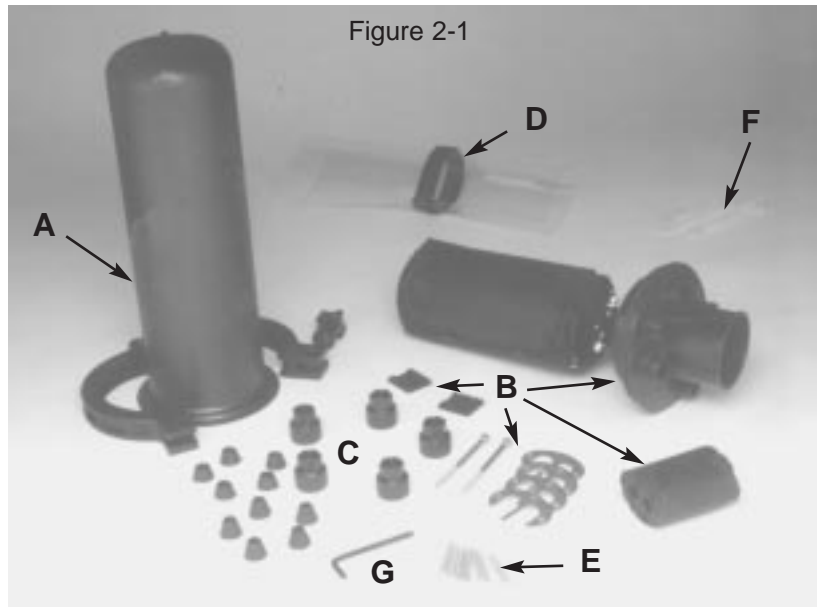

Figure 2-1
- 2.02** One complete FireFly Series “D” closure kit includes the following components. (Figure 2-1)